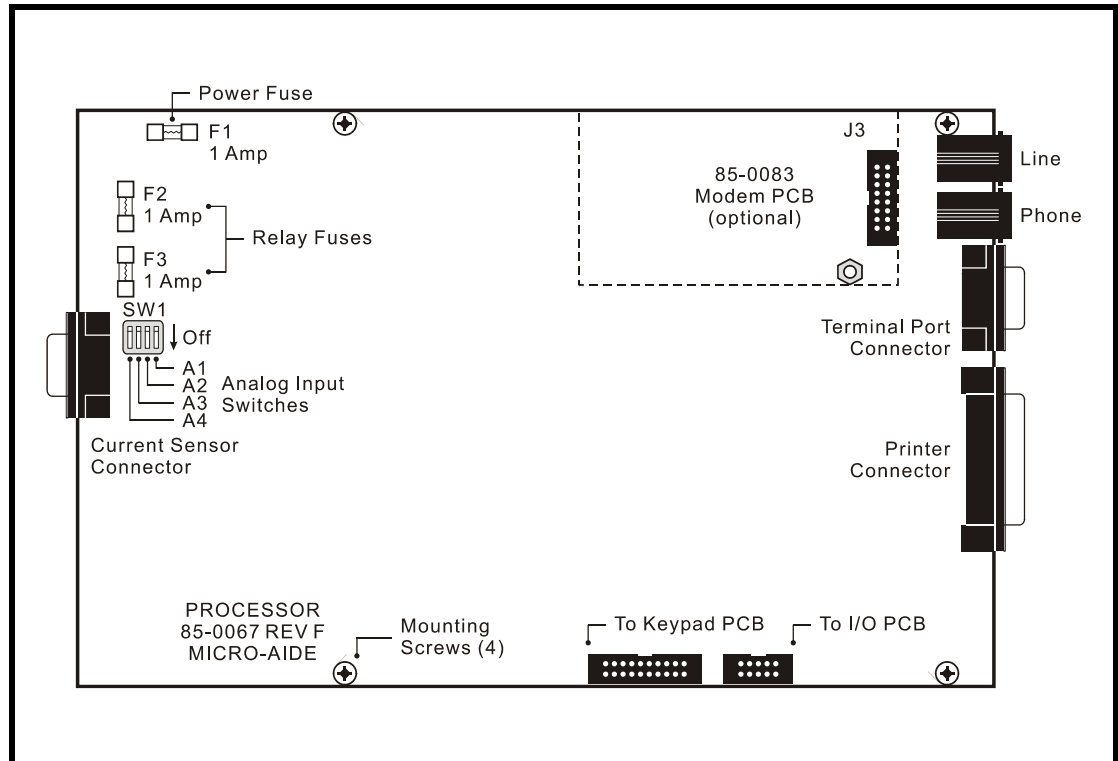

Figure 6 - CWR-56 Processor PCB
There is a single DIP switch assembly mounted on the Processor PCB. It is referred to as the Analog Input Switch and is labeled “SW1”. The DIP switch assembly contains four switches. Labeling on the body of the switch assembly indicates the on and off positions for each switch. Refer to Figure 6 on page 87 to locate the described switch.
2. Locate the sixteen-pin male connector labeled “J3 MODEM” near the upper right-hand corner of the Processor PCB. The modem connector is illustrated in Figure 6 on page 87.